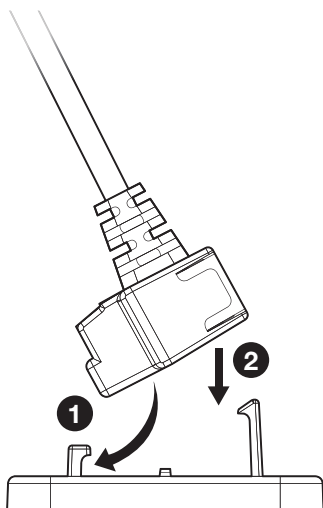

Figure 11. Attaching TLCA 2 to the Mounting Clip
1. First the captive-screw side, against the shorter clip (see figure 11, **1**),